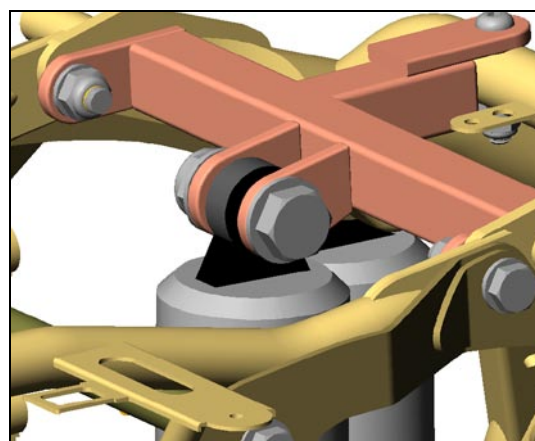

Figure 28
- Upper Hardware (center shock). Figure 28